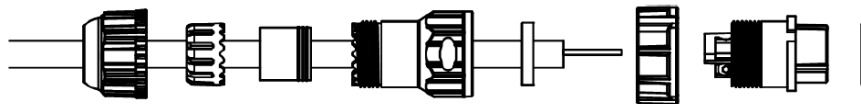

Figure 49: Core wire fixed into the screw fixing point
2. Use a 1.5 mm screwdriver, preferably an allen wrench, to fix the core wire(s) into the screw fixing point (Figure 49).